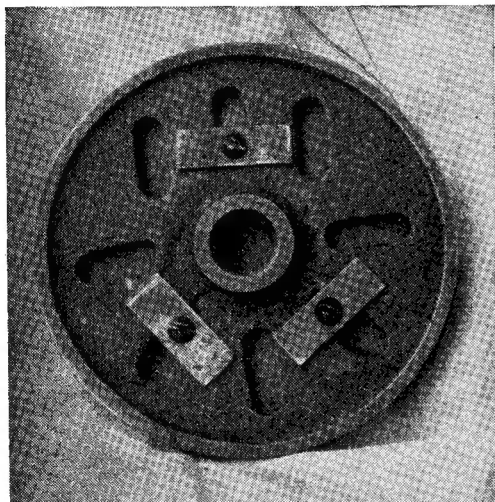

Fig. 4. How to clamp a wood disc on to an iron faceplate at the back
draw (DH), also touching the circle, and complete the square (AGHD) on the circle. From any corner (say A) set off a distance (A-1) equal to $\frac{2}{7}$ ths of the circle diameter or side of the square—this, if (AD) be 7 in. (A-1) will be 2 in. By joining 1 to 2, touching the circle, will give a tangent very nearly 45 deg., or near enough. Do the same at (G-4), (H-5) and (D-7). The square is next cut out with a hacksaw or fine-tooth rip saw, tending to cut outwards from the circle rather than inwards, so to avoid undercutting the circle. Before taking off the corners, in the same manner, test the thickness at each with a micrometer. These should tally with one another to within two or three thou. Allowing for the original plank saw cut 1 in. stuff comes out about $\frac{1}{16}$ in. When the corner pieces are sawn off, test the points 1, 2, 3, 4, etc., and measure the highest from the centre to find if, when set central, any will foul the bottom of the gap. If this is so, take enough off each to clear, paring downwards with a sharp firmer chisel. Then set the job on to the lathe iron faceplate as shown in Fig. 4 nearest to third of circle slots will allow. The clamps are cut from $\frac{1}{2}$ -in. \times $\frac{3}{32}$ -in. mild-steel strip, $1\frac{1}{2}$ in. long, and holed centrally with No. 19 drill (0.166 in.). The screws are No. 8 (0.164 in.) iron round-head, of such length to go into the wood not less than $\frac{3}{8}$ in. To centralise the setting, measure exact diameter of the faceplate and scribe slightly larger circle in pencil using circle centre as a guide. To some extent the setting may be out, but if when iron faceplate (which must run flat and true on its lathe) is put on lathe nose, the large circle on mahogany runs out at all, the clamp screws must be eased and the job tapped over and run till true, before finally tightening screws. When completed so far, the outside edge has to be turned to clean up the big circle. (For this, use a very sharp tool held in the slide-rest and having a sharp top rake.) Don't run too fast or the tool edge will heat and soften. It is not intended to use this setting of the wood as a chuck but only to turn the edge and recess the centre to take the threaded nut, and is therefore the back of the accessory.